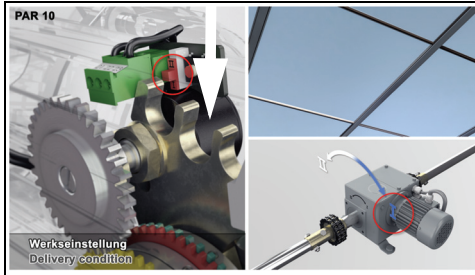

Fig. 24
- ▶ Shift the rotation direction switch for rotation direction “I” to position “CW/I” (see Fig. 24).